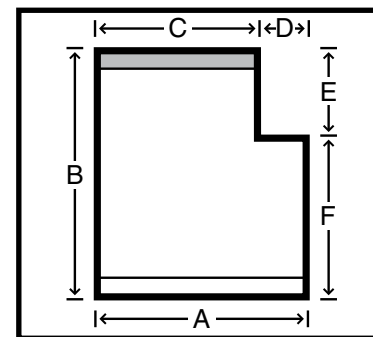

Figure 4 Head Rail Cut Out
- Head rail cut out blinds (Figure 4) are controlled on the opposite side of cut out. Inside mount blinds will raise to the widest width. Outside mount blinds will raise to the head rail.